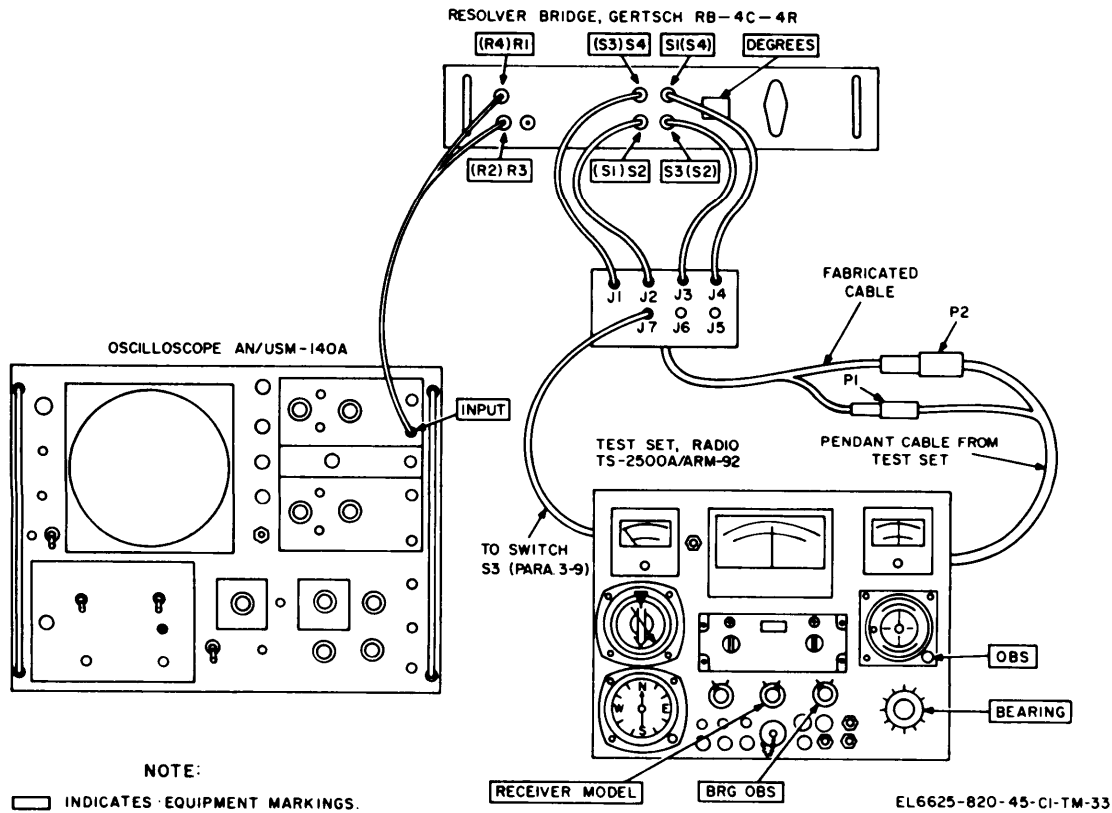

Figure 3-2. TS-2500A/ARM-92 precision BEARING alignment.
- o. Disconnect the test set from the resolver test setup (fig. 2-9). Connect the test set and the resolver bridge as shown in figure 3-2. Use the cable fabricated in paragraph 4-4 (fig. 4-1.2).
- (1) Solder six 2-foot lengths of # 22 AWG stranded insulated wire to pins C, D, E, F, G, and H of male connector P1.
- (2) Solder two 2-foot lengths of # 22 AWG stranded insulated wire to pins G and E of male connector P2.
- (3) Label the loose ends of the six wires with the pin number to which each wire is connected.
- (4) Slip a 2-inch length of spaghetti over the loose end of the eight wires.
- (5) Mount and label seven binding posts on a small enclosed metal box (fig. 3-2).
- (6) Connect a 21.5-kilohm,  $\pm 1\%$ , 1/2-watt resistor from binding post J6 to binding post J7.
- (7) Connect a 21.5-ohm,  $\pm 1\%$ , 1/2-watt resistor from binding post J5 to binding post J7.